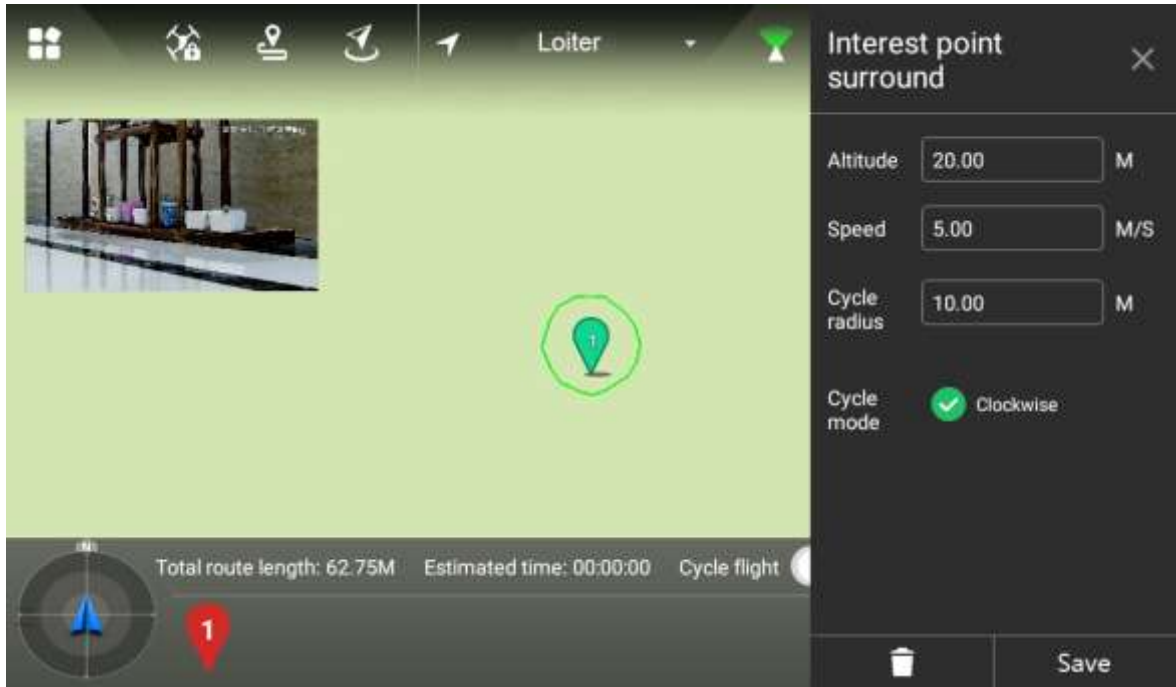

Figure 4-19
Step 3 Click the interest point, and the point icon will become red. Settings interface of interest point will be displayed on the right of main interface, as shown in Figure 4-19.